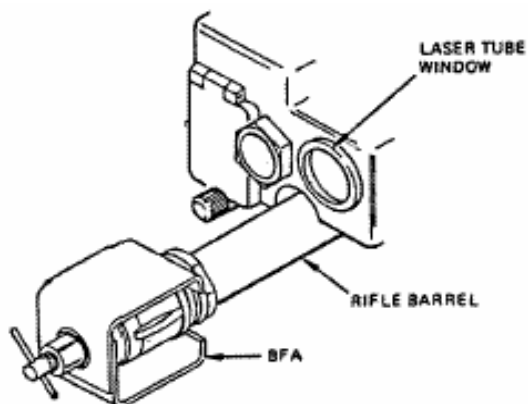

FIGURE 2-9. BLANK-FIRE Attachment (typical)
2. Put the covered side of the BFA on the barrel of the rifle so that the covered side is towards the SAT's laser tube window (see Figure 2-9). This will protect the window from the muzzle blast residue.